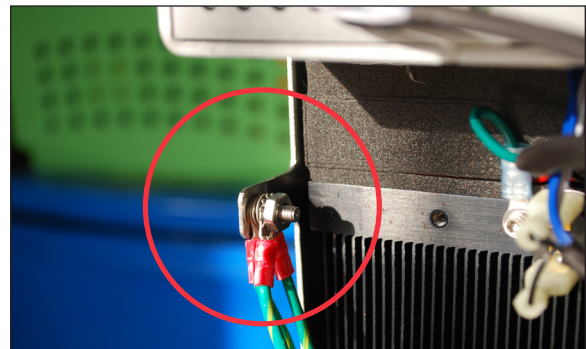

Figure 96 - Step 4 Remove retaining Keps nut and ground wires
4. Remove the retaining Keps nut and remove all ground wires from the grounding post to free the power inlet wire harness (Figure 96).